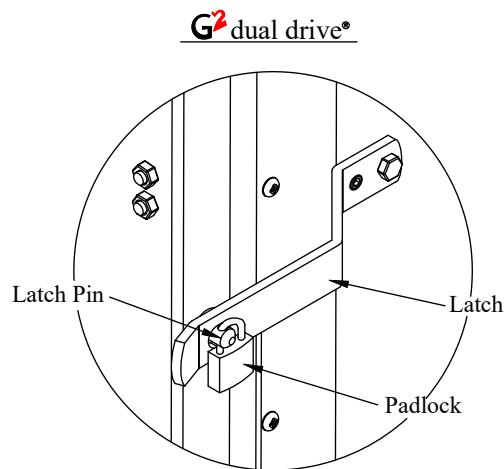

Figure 19: Padlock location.
- 9. Lock** the padlock through the hole in the latch pin (Figure 19).